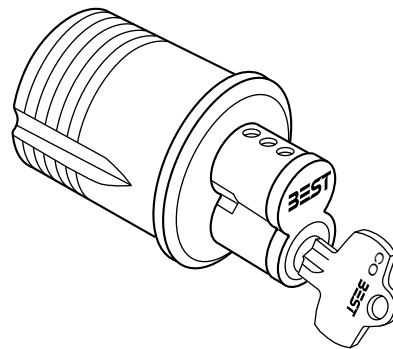

Figure 8 Inserting the core into the figure-8 hole (mortise cylinder housing shown).
- 3 Insert the core (and throw member for cylindrical locks) into the figure-8 hole with the control key as shown in Figure 8.